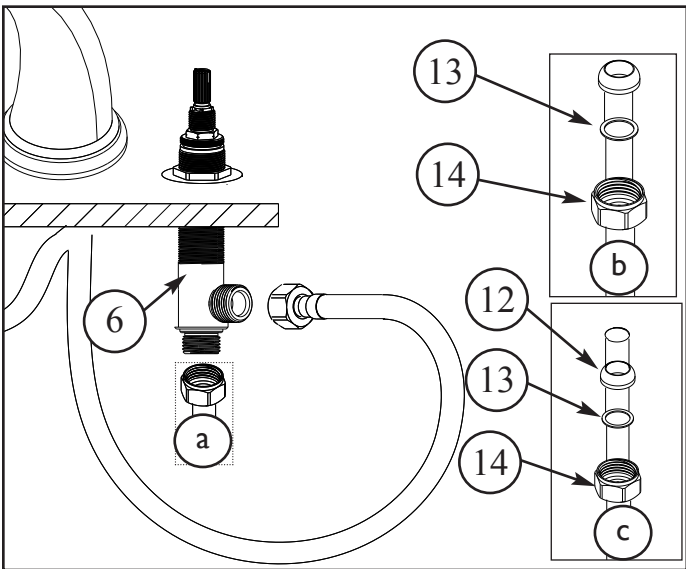
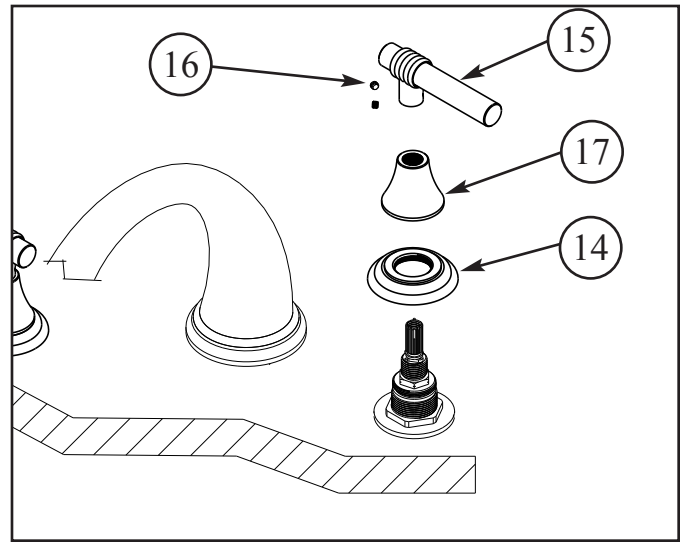

Figure 3
Figure 4
4. Connect hot/cold water supply to appropriate 1/2" NPSM valve BODY (7), utilizing one of the three following types of risers. Supply risers not included. See Figure 3.
- a. 1/2" IPS flexible riser: discard rubber nosecone WASHER (11), friction WASHER (12) and coupling NUT (13).
- b. 3/8" or 1/2" OD bullnose riser: utilize friction WASHER (12) and coupling NUT (13).
- c. 1/2" copper riser: utilize rubber nosecone WASHER (11), friction WASHER (12) and coupling NUT (13).
5. Attach ESCUTCHEON (14), BONNET (17) and HANDLE (15) to cartridge. Secure HANDLE (15) into place with SETSCREW (16). Any adjustments for rotational alignment must be made to the valve BODY (7) - not to the cartridge. (Note: Allow minimum spacing between HANDLE (15) and BONNET (17) to prevent damage to the surface finish.) See Figure 4.